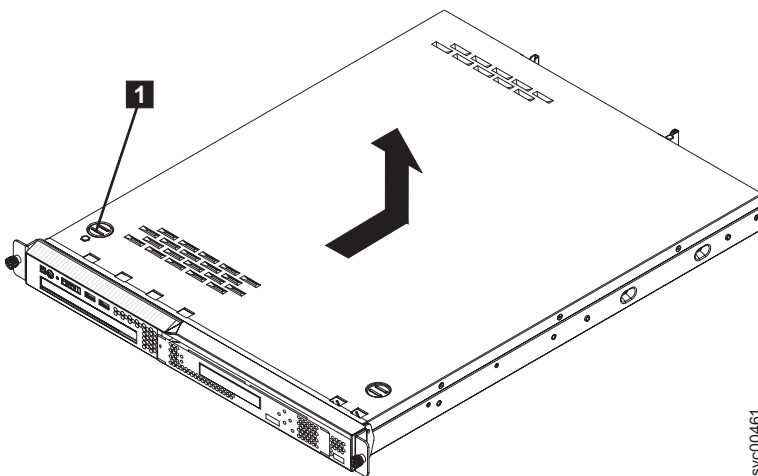

Figure 66. Removing the SAN Volume Controller 2145-8A4 cover
3. Press the cover-release button **1**, which is shown in Figure 66.